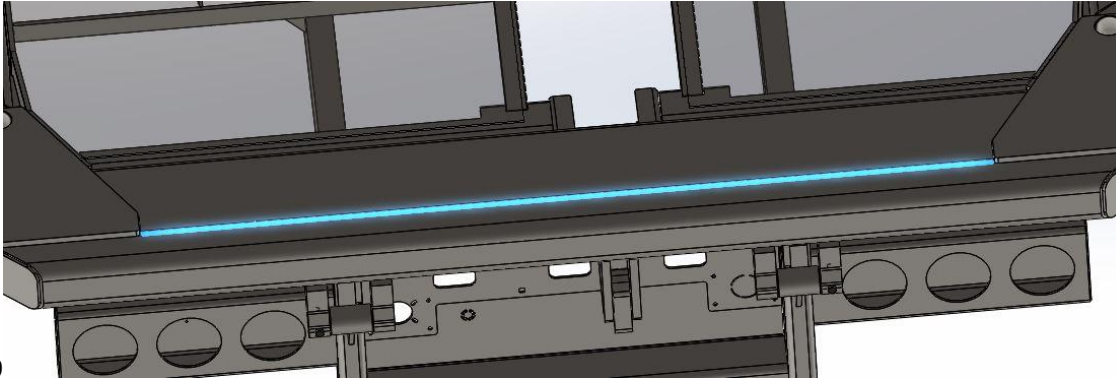

Figure 9
7. Weld the rear edge of the cover plate at three inches (3") long and spaced at six inches (6") apart. (3X50 Series, spaced at seven and one-fourth inches (7-1/4") apart), Figure 9.